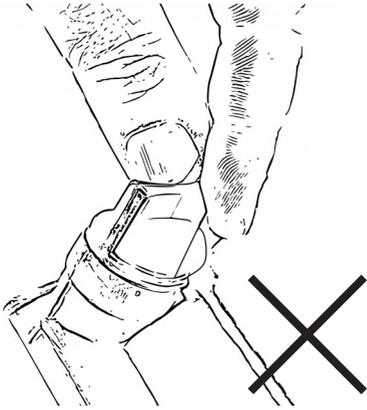

Figure 2
Never turn the oil filler plug with connected dipstick into the thread when reading the oil level. This leads to an incorrect measurement result, Fig. 2.
- Immerse the dipstick completely in the oil. **Never** turn the dipstick into the thread, Fig. 2.